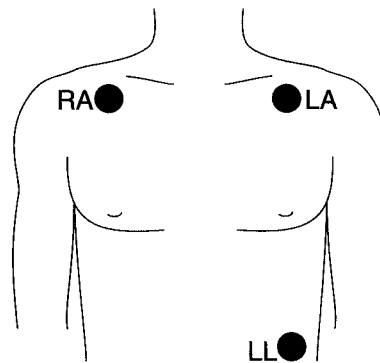

Figure 5-2 ECG electrode placement
- Minimize signal distortion (pacing distortion), keep ECG electrodes away from pacing electrodes by applying: RA to **far upper right** torso beneath the clavicle; LA to the **far upper left** torso beneath the clavicle; LL to **lower left** torso. These locations may minimize signal distortion (see Figure 5-2).